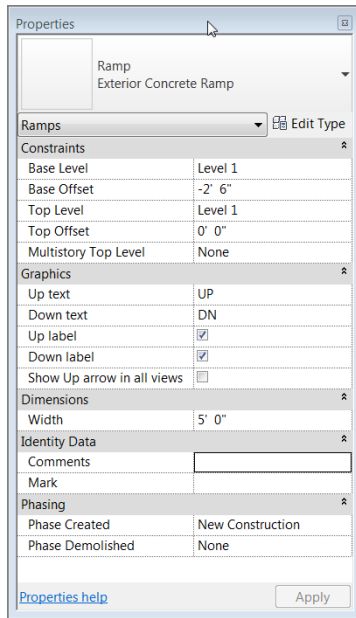

FIGURE 10.85: Setting the properties
13. Set Base Offset to -2'-6" (-750mm), as shown in Figure 10.85.
15. Set Width to 5'-0" (1500mm) (see Figure 10.85).